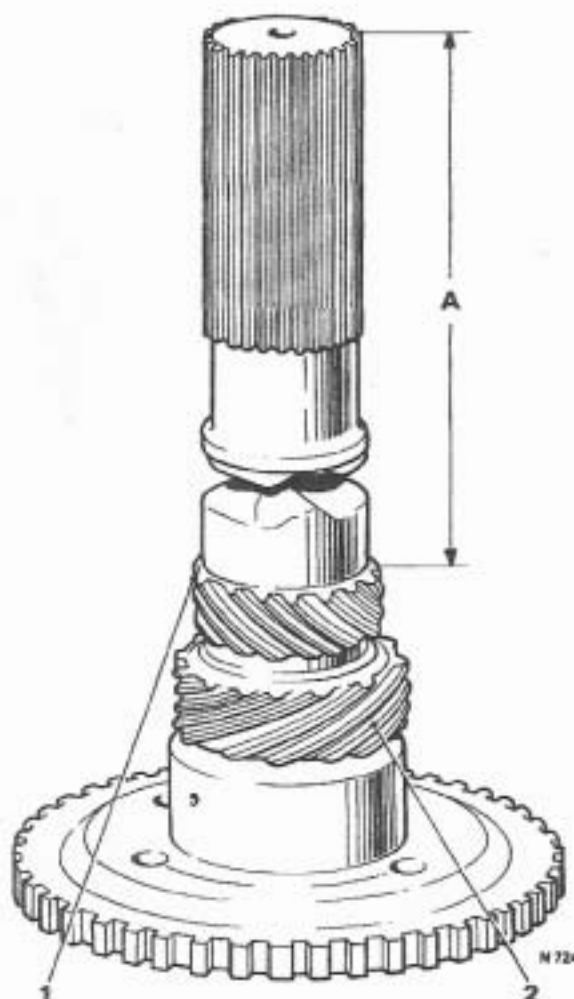

FIG. T272 SPEEDOMETER DRIVING GEAR—FITTED
1. To fit a nylon gear, (see note under *Speedometer drive gear — To remove*) align the slot in the speedometer drive gear with the retaining clip and install the drive gear (see Fig. T272).